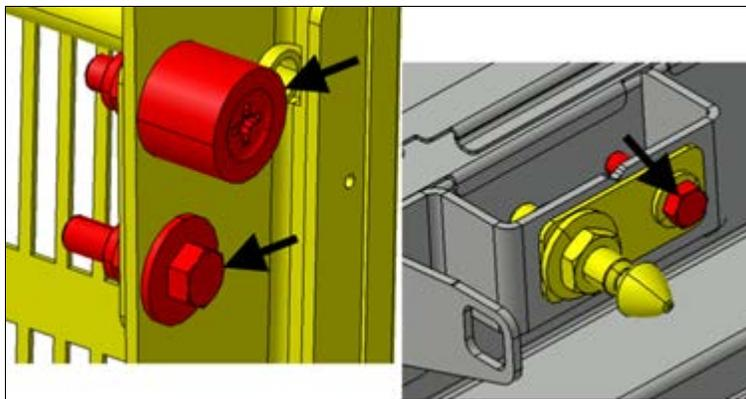

FIGURE 14
13. Open the door and perform a final tightening to the items indicated with arrows (FIGURE 14).